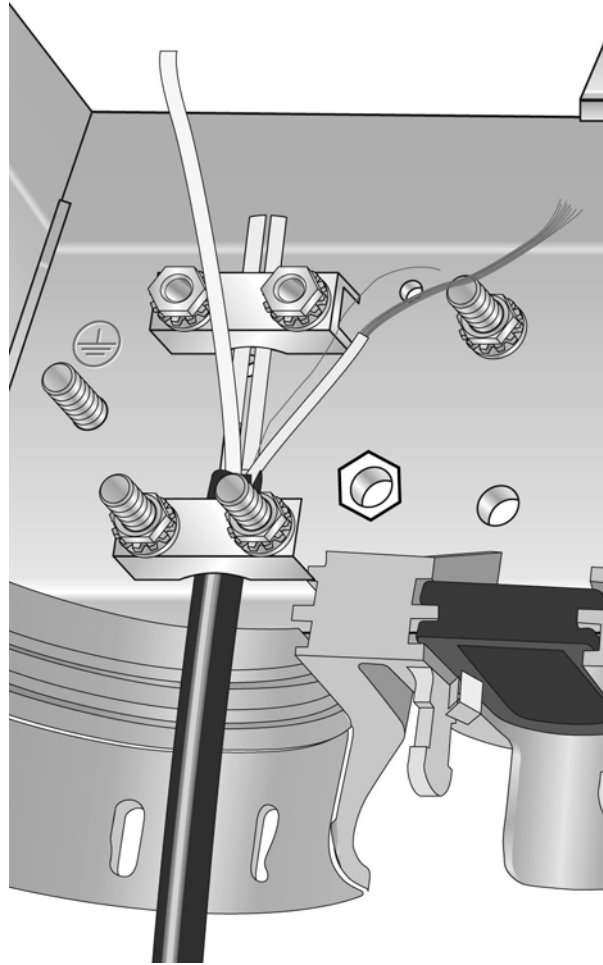

Figure 10. Drop Cable Secured to the Grounding Plate
12. Replace the bar, washers, and Kepnuts on the posts of the drop cable clamp and tighten the Kepnuts to secure the cable, as shown in Figure 10, to between 10 and 12 in-lbs